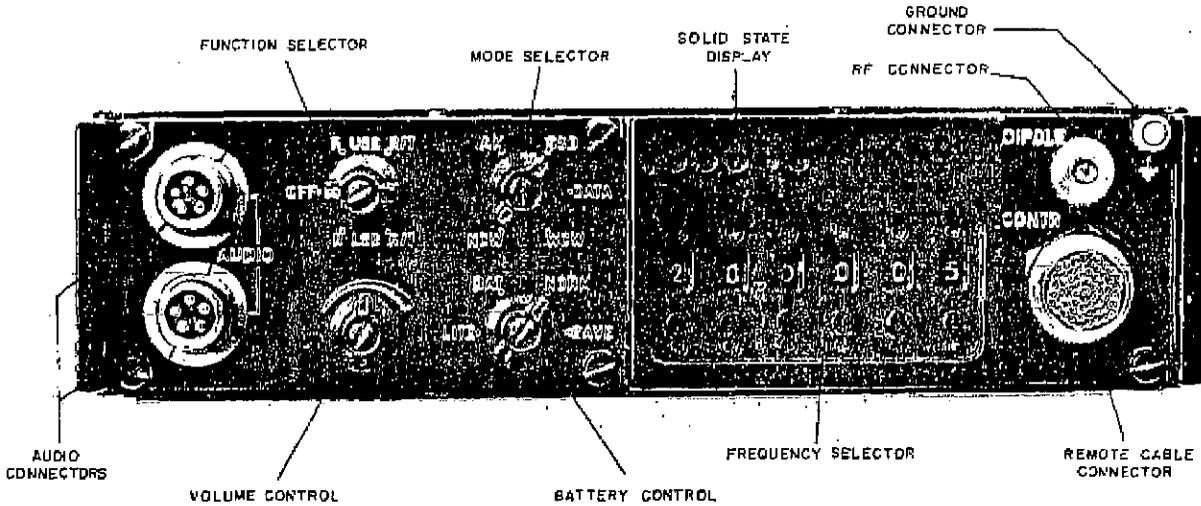

Figure 2-1. Receiver-Transmitter front control panel
sidewall (when facing the front panel), and the battery connector, which is located on the rear panel (Figure 1-1). The front panel is shown in Figure 2-1. The solid state display (SSD) consists of five indicator lamps. Table 2-2 describes the display readings.
- 1) Make sure that the receiver-transmitter is OFF (function selector, Figure 2-1).
connectors (Figure 2-1).
- attach one end of the wire to the ground connection (Figure 2-1).
'Note: **All visual indications** are given on the Solid State Display (SSD, Figure 2-1); **audible** indications are heard in the headset/earphones.